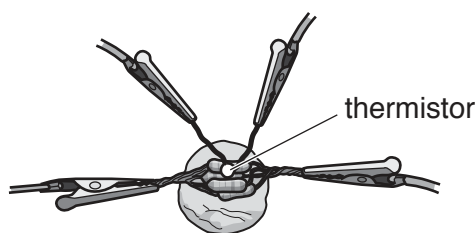

Fig. 4.2
3. A suitable disc thermistor has a resistance of about  $500\ \Omega$  at  $25^\circ\text{C}$ . The RS component code of such a thermistor is RS 191-2229. Two crocodile clips should be attached to the wires of the thermistor and the thermistor disc should be placed on top of the heater shown in Fig. 4.2.
The heater (note 2) and thermistor (note 3) are assembled as shown in Fig. 4.2. Switch S and switch T should be labelled. It must be possible for the candidates to connect leads from a voltmeter between positions A, B and C so these points should also be labelled on the apparatus.